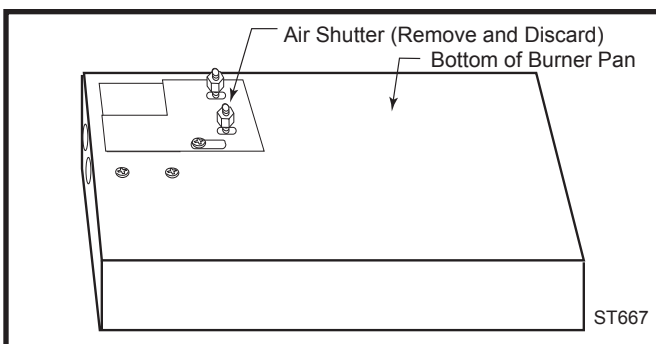

Fig. 18 Remove air shutter and discard.
3. Turn burner upside down and remove air shutter. Discard air shutter. (Fig. 18)